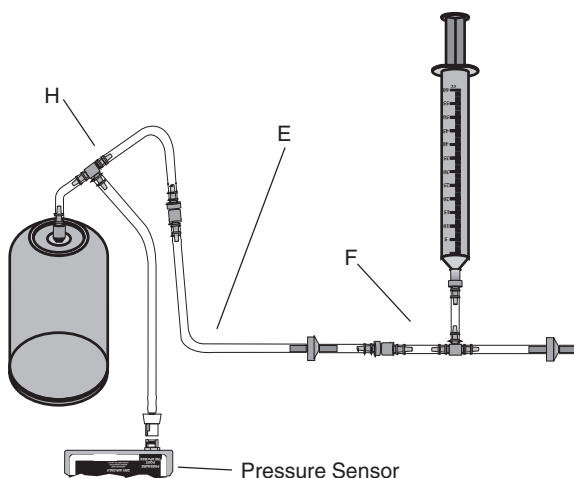

Figure 4
1. Connect part H to the hose connector on part A (Figure 4).